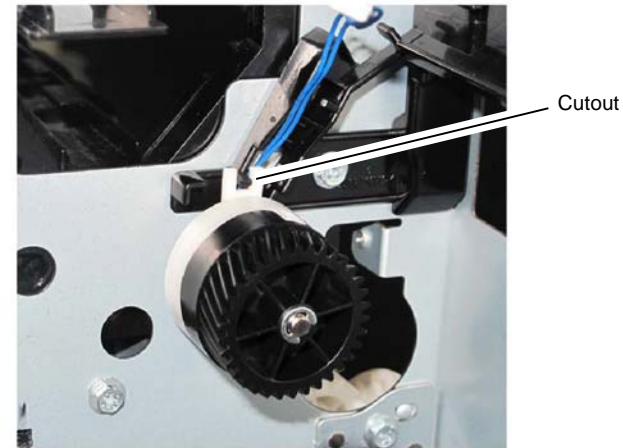

Figure 5 Alignment
2. When installing the registration clutch assembly, align the cutout with the harness guide tab, Figure 5.